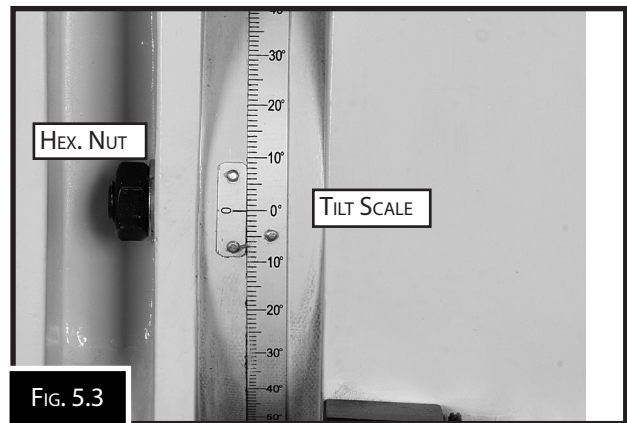
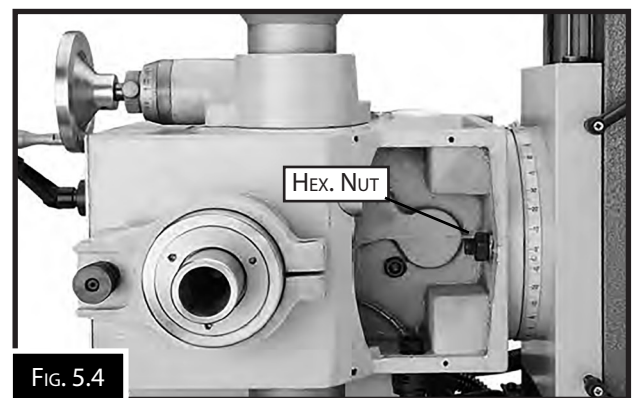

FIG. 5.3
FIG. 5.4
2. Loosen the three locking hex nuts a 1/4 to 1/2 a turn. There is one on either side of the head (Fig. 5.3) and one under the bottom of the head (see Fig. 5.4).